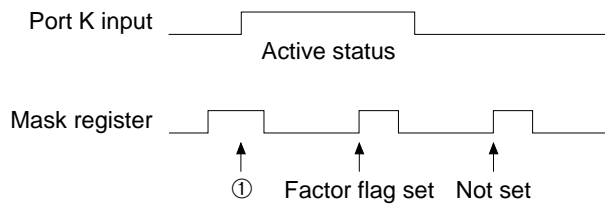

Fig. 4.3.3
For example, a factor flag is set with the timing of ① shown in Figure 4.3.3. However, when clearing the content of the mask register with the input terminal kept in the high status and then setting it, the factor flag of the input interrupt is again set at the timing that has been set.